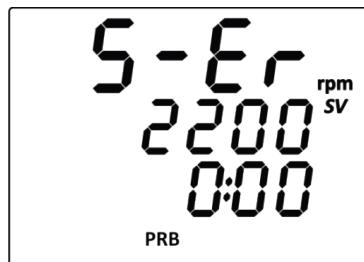

Figure 12 - Motor temperature sensor fault
- 8.4.6. If the display shows indicator of the motor temperature sensor fault and displays corresponding fault message (Figure 12),